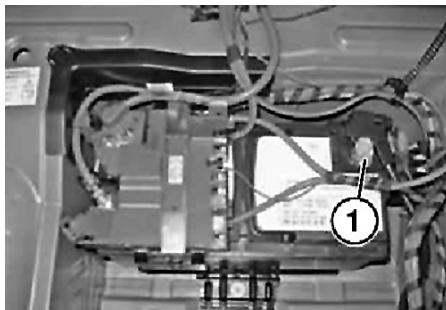

Fig. 6 Battery ground cable disconnection
9. Loosen battery ground cable terminal nut (1), **Fig. 6.**
6. Connect battery ground cable terminal to battery, **Fig. 6.** **Torque** terminal nut to 44 inch lbs.